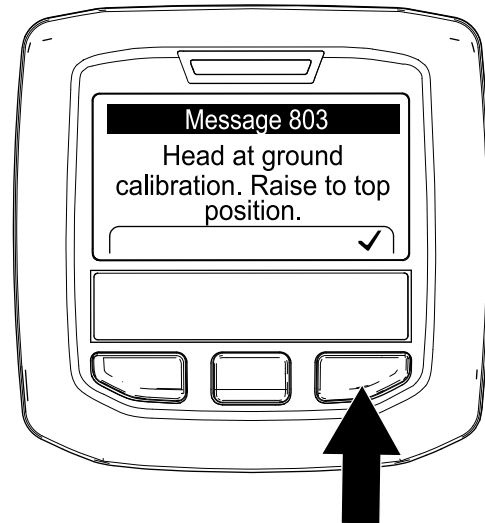

Figure 117
- The tines begin to penetrate the ground—press the right InfoCenter button (Figure 117) and run the Teach Ground Height application; refer to Running the Teach Ground Height Application (page 36).